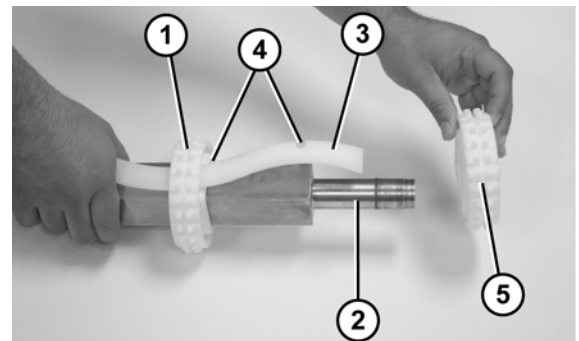

Figure 73
1. Slide the first sprocket (Figure 73, item 1) onto the drive spindle (Figure 73, item 2).
2. Insert the sprocket alignment bar (Figure 73, item 3) into the first sprocket and align the sprocket with the notch (Figure 73, item 4) in the sprocket alignment bar.
3. Slide the remaining sprockets (Figure 73, item 5) onto drive spindle and align each sprocket with the notches (Figure 73, item 4) in the sprocket alignment bar. Be sure that at least three sprockets (Figure 74, item 1) are positioned such that they are on alternate opposing locations on the alignment bar.